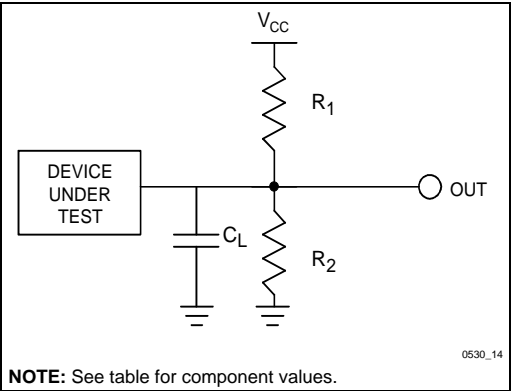

Figure 22. Test Configuration
5. See Test Configurations (Figure 22), 2.7V–3.6V and 3.3 ± 0.3V Standard Test component values.
6. See Test Configurations (Figure 22), 5V Standard Test component values.
9. See Test Configurations (Figure 22), 2.7V–3.6V and $3.3 \pm 0.3V$ Standard Test component values.
10. See Test Configurations (Figure 22), 5V Standard Test component values.